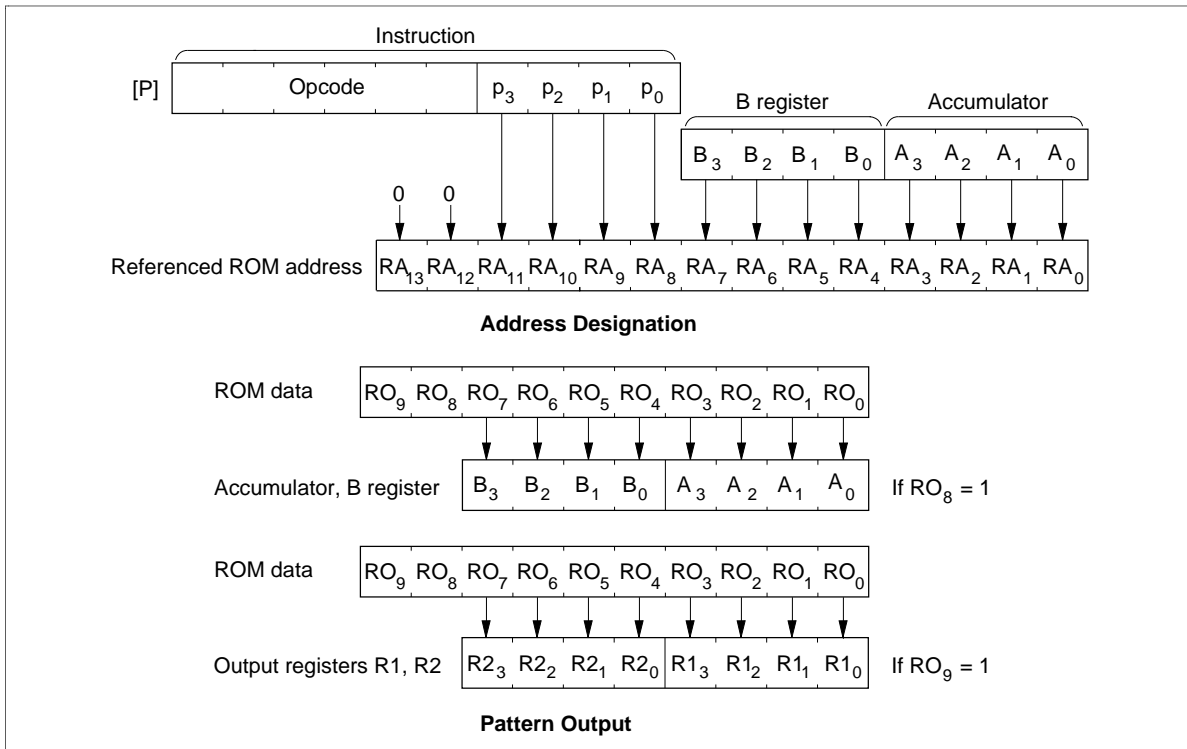

Figure 86 P Instruction
**P Instruction:** ROM data addressed in table data addressing mode can be referenced with the P instruction (figure 86). If bit 8 of the ROM data is 1, eight bits of ROM data are written to the accumulator and the B register. If bit 9 is 1, eight bits of ROM data are written to the R1 and R2 port output registers. If both bits 8 and 9 are 1, ROM data is written to the accumulator and the B register, and also to the R1 and R2 port output registers at the same time.